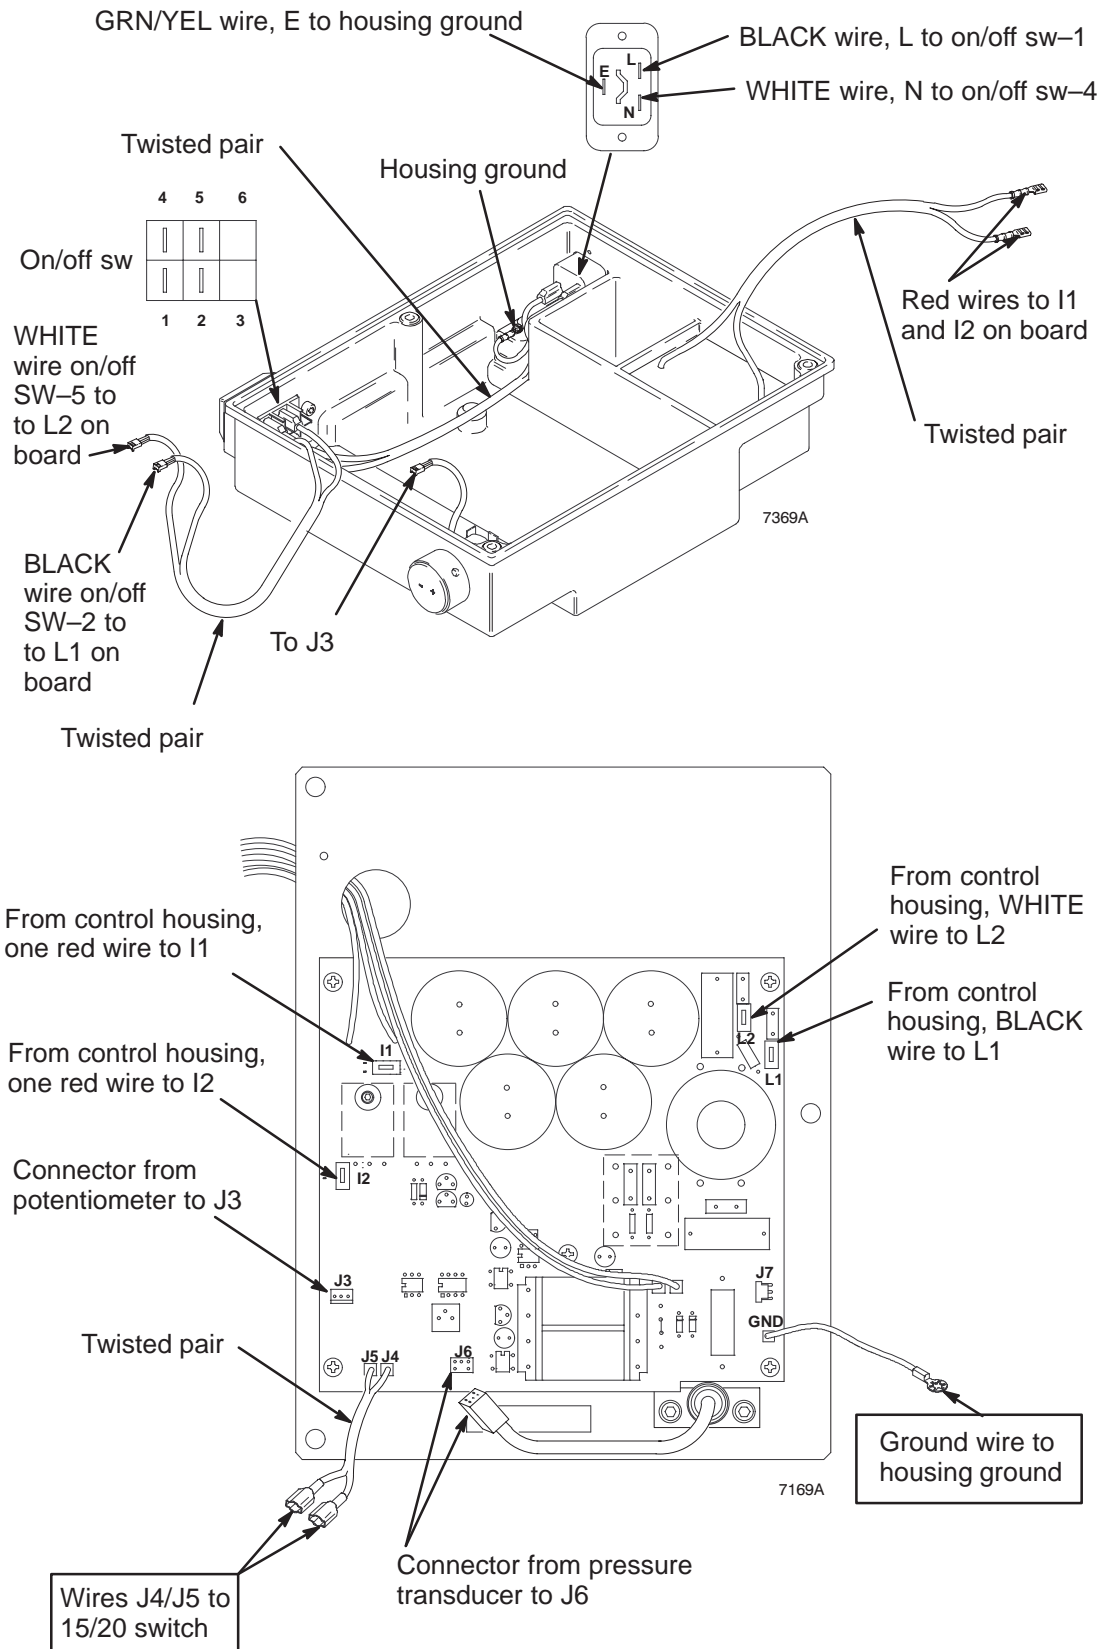

Fig 17
4. Remove and replace only those components and wires necessary for repair. Make a diagram showing wire hook-ups for items removed to insure correct wiring when reinstalling. See Fig. 17 for wiring information.
5. Install control housing (202) to motor control board (201) using screws (213) and lockwashers (214).